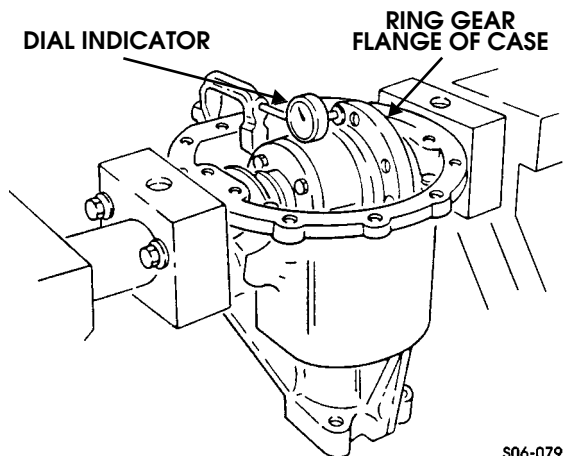

Figure 9-92: Dial Indicator Positioning For Case Runout Check
35. Mount dial indicator on housing and position indicator to read off ring gear mounting surface of differential assembly (Figure 9-92).